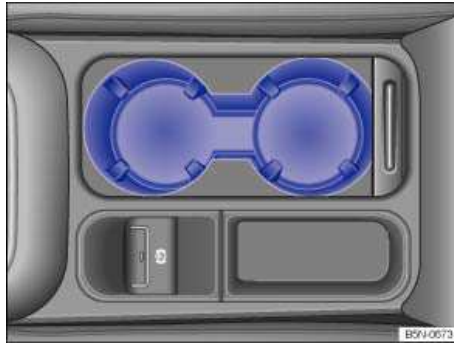

Fig. 131 In the front center console: Cup holders.
- Slide the cover to the rear ⇒ fig. 131.